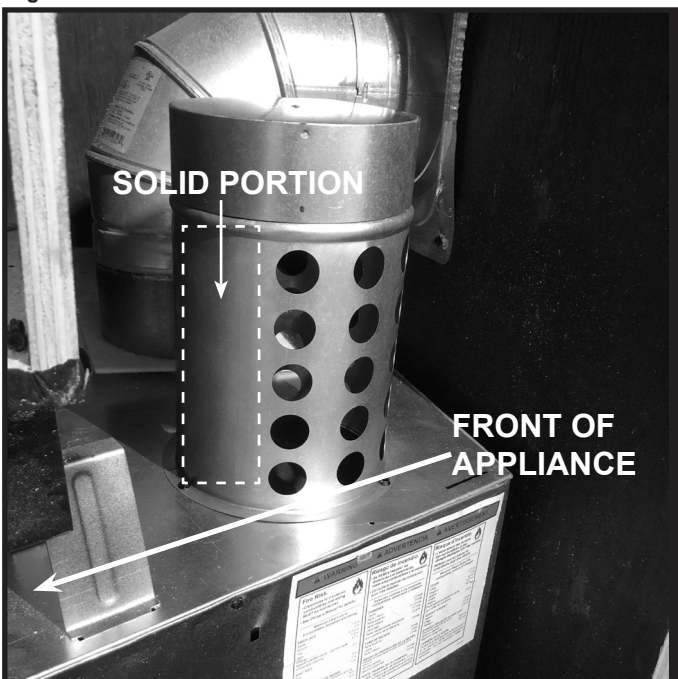

Figure 9 Attach Adapters
3. Center adapter over opening with the solid portion facing the front of the appliance. Attach both adapters to appliance by installing three screws per adapter. See Figure 9.